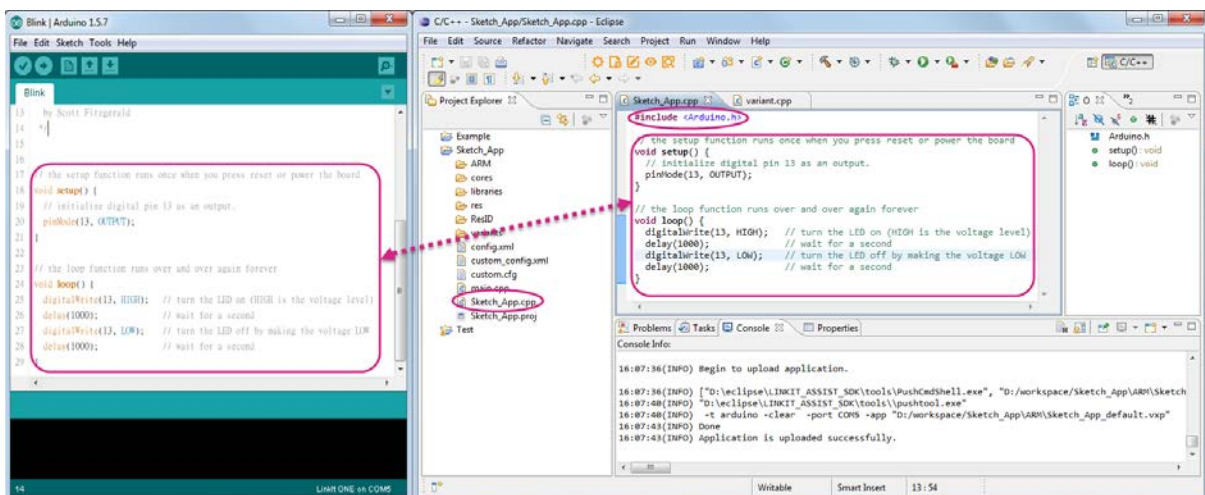

Figure 56 Importing Arduino sketch code by copying it
- b) Copy and paste the content of your Arduino sketch into **Sketch\_App.cpp**. Insert `#include <Arduino.h>` at the start of the .cpp file to include Arduino header files, this is because the Arduino IDE has this `#include` path by default but the Eclipse IDE doesn't. As an example, Figure 56 shows the Arduino Blink code being copied into the .cpp file. Alternatively, you can delete **Sketch\_App.cpp** and replace it with your own sketch file by changing the suffix of your sketch file from \*.ino to \*.cpp.